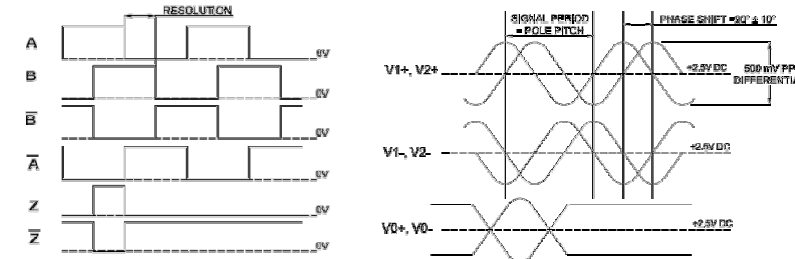

Figure 2
**Reader head:** Standard gap between reader head and scale should be as per given in table in Figure 2. A plastic shim is provided to maintain this gap between reader head and scale during installation. Refer Figure 2 for further alignment data.